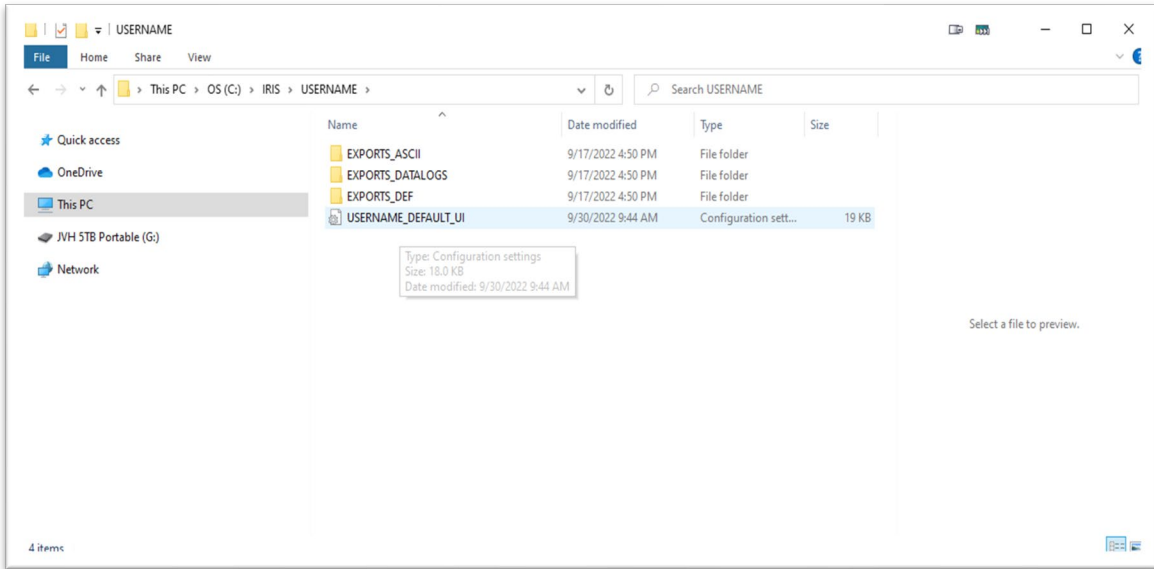

Figure 2. iRIS subfolder creation
4. The installer will create the following subfolders: See Figure 2: